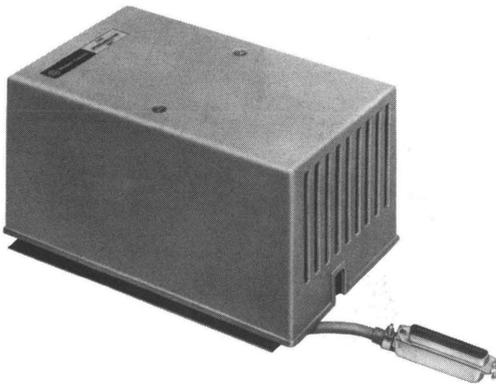

Fig. 13—114A Interconnecting Unit
**2.13 114A Interconnecting Unit**—A PICTURE-PHONE® connecting arrangement consisting of a voice coupler circuit and a video coupler circuit. It is 7-1/2 inches wide, 6 inches deep, and 12 inches long. (See Fig. 13.)